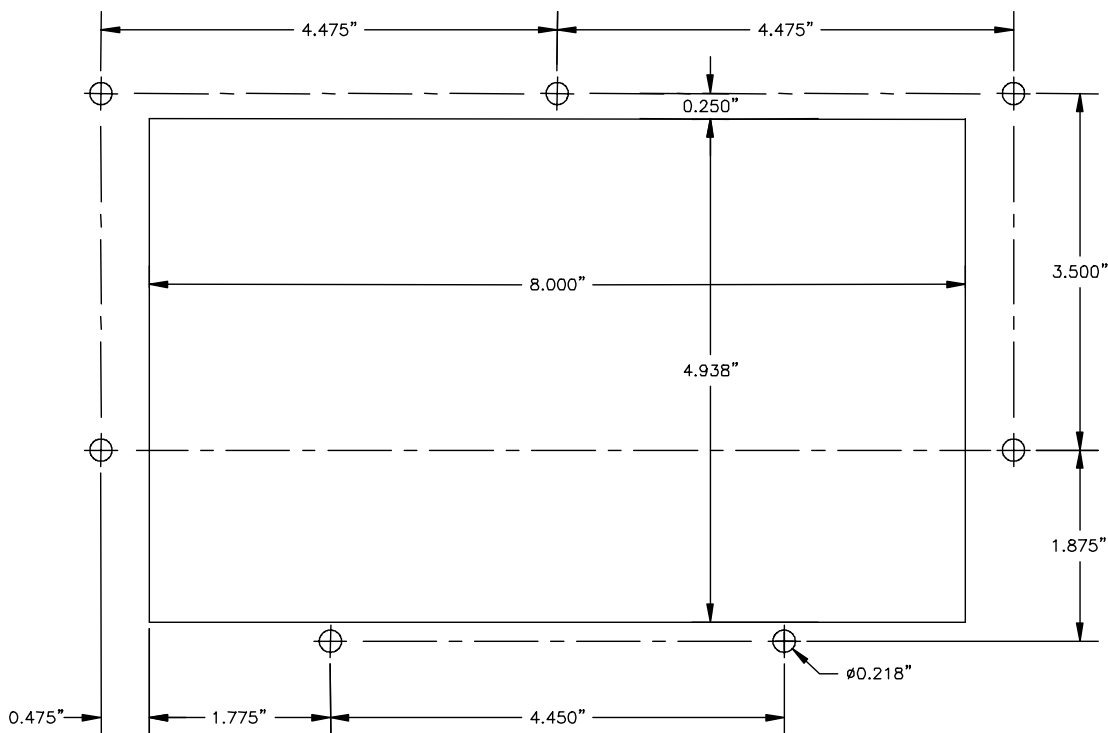

Figure 1 - HSM-CUP7 Recommended Panel Door Cut-out
- 1) Referring to the recommended cut-out in figure 1, cut a cut-out in the door of the existing user's control cabinet or console.